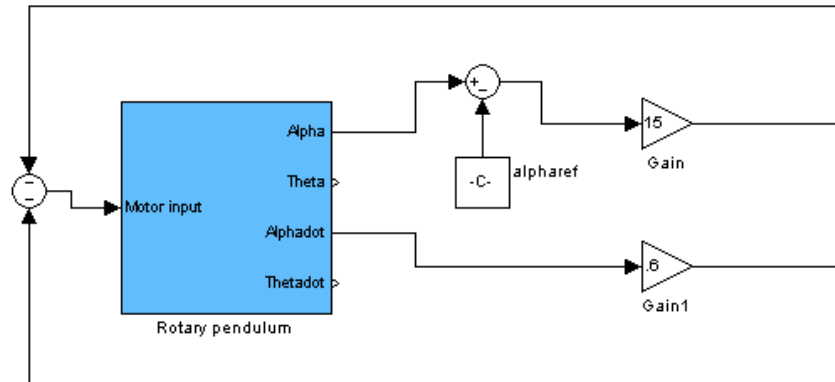

Figure 3: Simulink model for PD control.
1. Modify your Simulink model from before to get the one shown in Fig. 3.